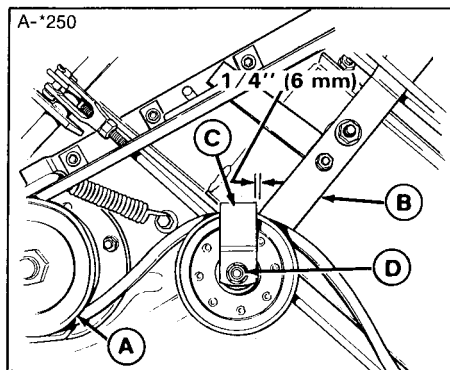
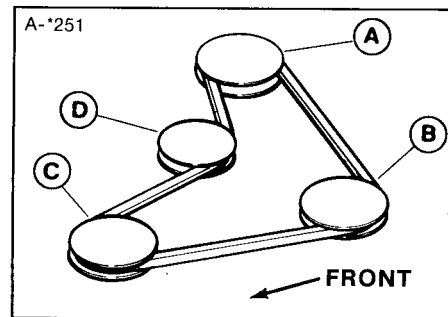

Figure 25. Mower Belt Replacement
Figure 26. Mower Belt Pattern - 36"
2. Loosen the belt guide (C, figure 25) on the idler pulley.
3. Move idler arm (B) toward rear of mower deck to release blade brakes.
5. Install the new belt on the pulleys as shown in figure 26.
7. Reposition the belt guide on the idler pulley (figure 25). Before tightening the nut (D), position the belt guide so it is 1/4 inch (6 mm) behind the idler arm (B) when viewed from above (figure 25). Hold the belt guide when tightening nut.